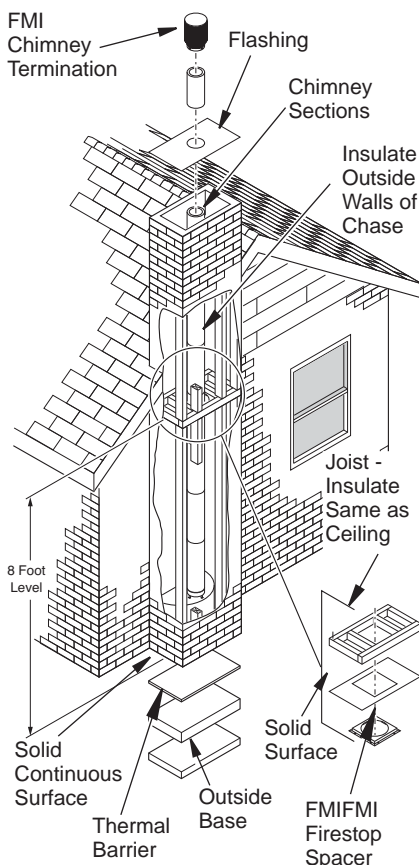

Figure 26 - Cold Climate Installation
3. Insulate walls of chase, both outer and interior partitioning wall (see Figure 26). Clearances from pipe to insulating material must be maintained.